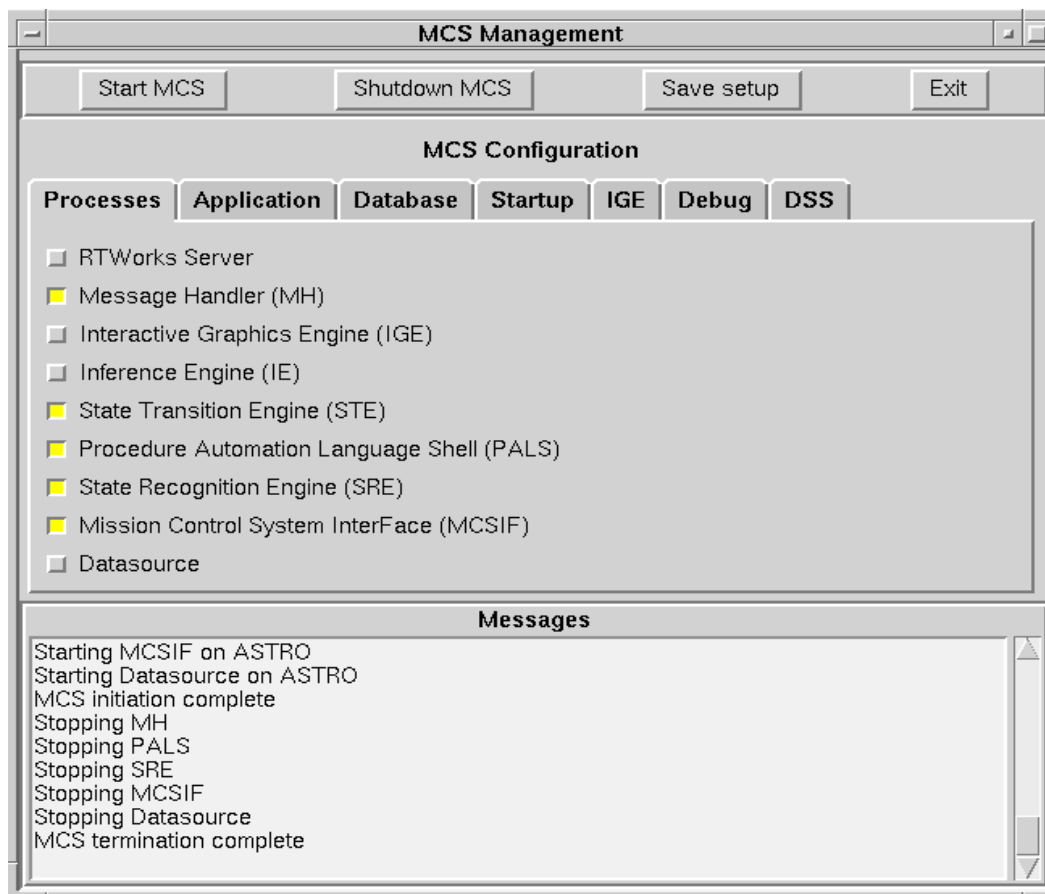

Figure 10.1.3-1. MCSM Window
1. **Altair MCS Management Window.** The Management window allows you to: activate and terminate Altair processes; control where the processes execute; control where the Altair displays are sent; and set the level of debug messages generated in the log files (see Figure 10.1.3-1).
The first part displays the initial of the process name that generated the message (i.e., SRE for State Recognition Engine, STE for State Transition, PALS for Procedure Automation Language Shell,...). The second part is the time stamp of the message. The third part is the actual text of the message. Messages displayed include state changes, procedure execution and status, and PALS command execution and status (see Figure 10.1.3-2).